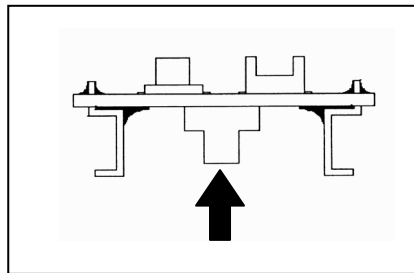

Figure 4-4. Target Connector Projection Diagram
- (1) Apply cream solder to the foot pattern for mounting the IC on the target system.
- (2) The target connector has a cylindrical projection in the center of the underside (Figure 4-4). Apply a two-component hardening type epoxy adhesive agent (a type that hardens in 15 to 30 minutes) sparingly to the underside of the projection to temporarily secure the connector at the specified location on the target system. Make sure that the position of pin 1 of the connector (where the corner is cut) matches the position of pin 1 on the target board.